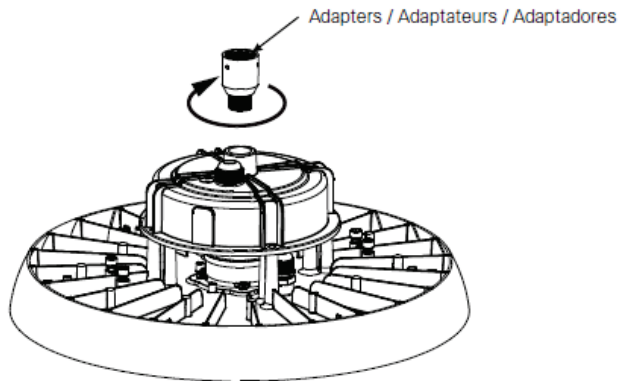

Figure 11
1. Use Nominal 3/4" (1.050 OD) schedule 40 pipe with threaded end (NPS 14 thread per inch) with appropriate hardware to connect to optional mounting adapter. See specification sheet for adapter / part number for ordering. See Figure 11.